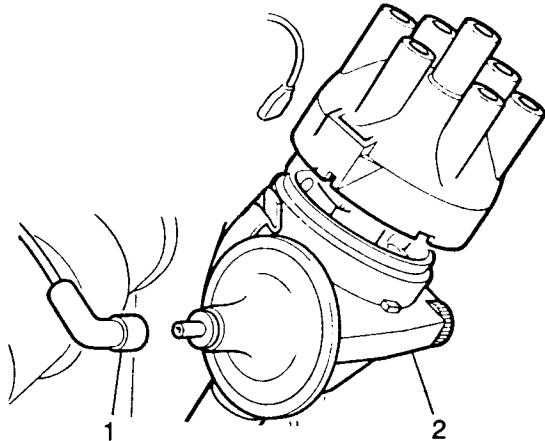

Fig B4.77
- (1) Refer to Fig B4.77. Disconnect the vacuum advance pipe (1) at the distributor (2).
- (7) Reconnect the vacuum advance pipe to the distributor (Fig B4.77,(1)).